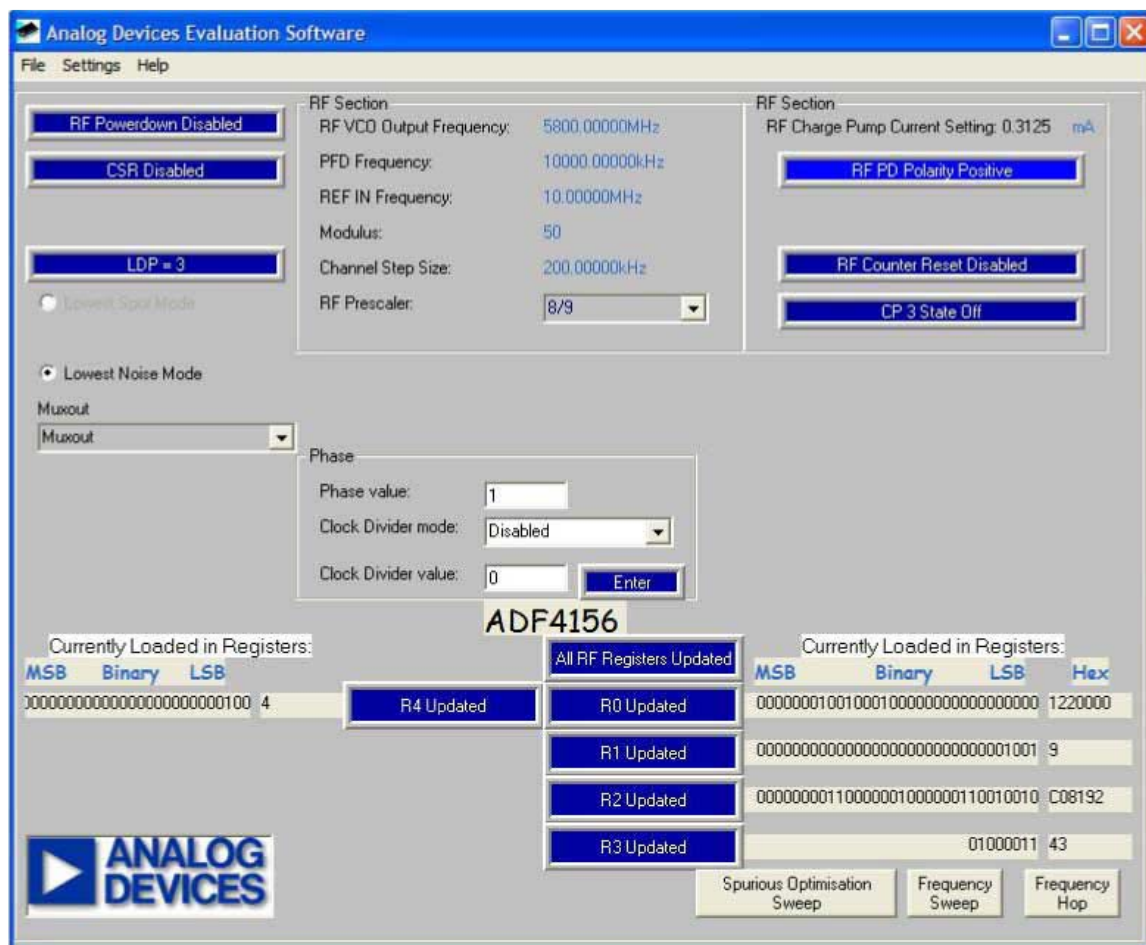

Figure 5. Evaluation Software, Main Window
4. Before the main window appears (see Figure 5), the device window opens, prompting you to choose the device to evaluate.
When the main window (shown in Figure 5) opens, perform the following tasks:
3. Click **Update All Registers** (this has been replaced by **All RF Registers Updated** in Figure 5). The data is now set up. The window should look like Figure 5.